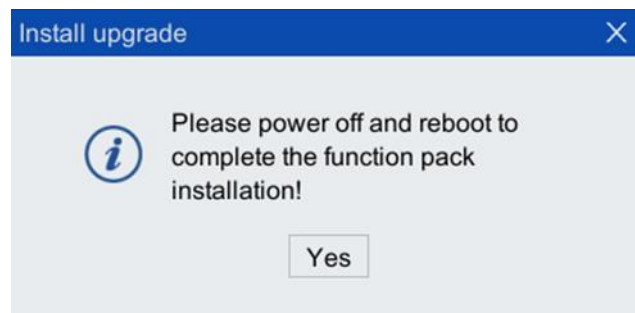

Figure 4-6 "Install and Upgrade" dialog box
Step8. After the progress bar is updated, the "Install Upgrade" dialog box shown in Figure 4-6 will pop up. At this time, the device can be powered off and restarted to complete the feature pack upgrade.